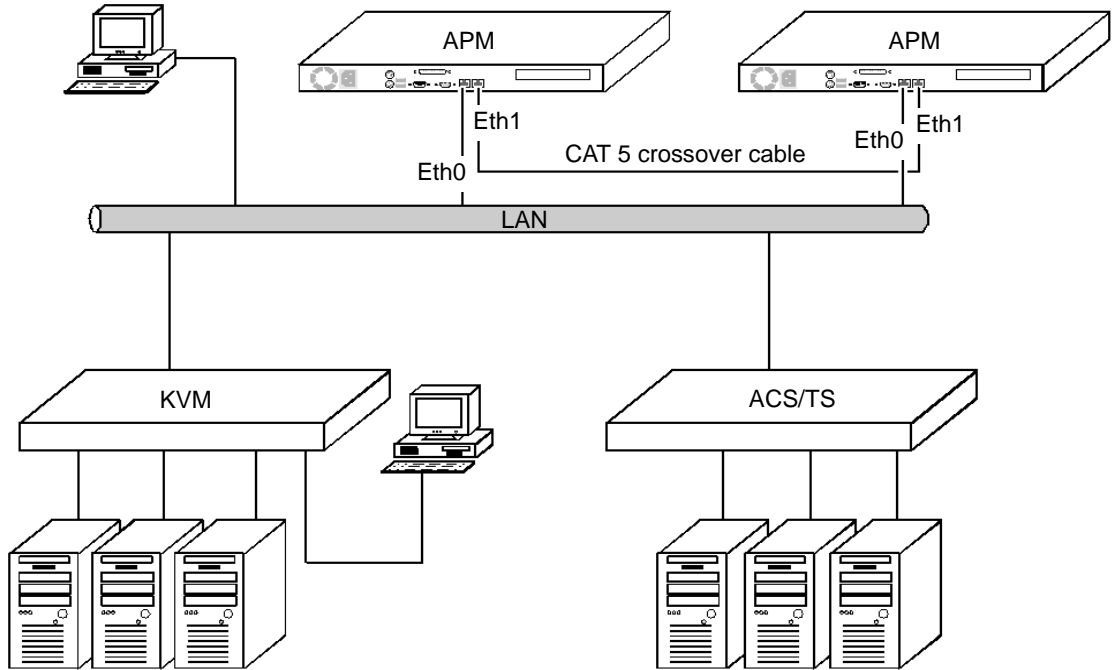

Figure 4-82: Connecting 2 APMs in a Redundant Configuration
Figure 4-82 that follows shows a typical physical connection for a redundant APM configuration.
4. Physically configure two APMs with Eth0 ports on a common LAN. The IP addresses of the APMs must be static. Figure 4-82 shows the physical configuration of the APMs.